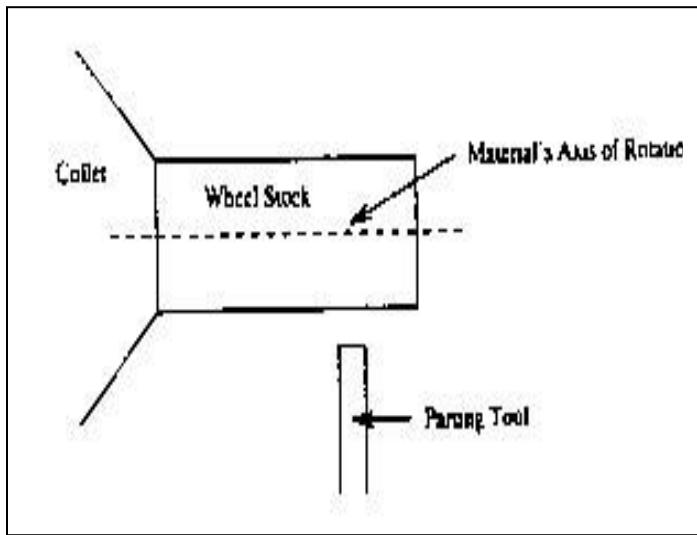

Figure 35: Aligning the Parting Tool So It Is Perpendicular.
Loosen the two nuts in front of and behind the compound rest with the $\frac{1}{2}$ " wrench. See Figure 35. Adjust the angle of the compound rest to 16°. Make sure that the edge of the compound rest is parallel to the surface of the taper, which you plan to cut. Note that each tick mark on the rest is one degree. Re-tighten the two nuts on both sides of the compound rest.
8. Using the parting tool and wheel gauge, measure (7/32" from wheel gage) and slice off two wheels from the stub (Figure 35). Again, Do NOT use auto feed for this process. Be sure to bathe the parting tool and the aluminum piece with cutting fluid continuously as you cut into the aluminum.